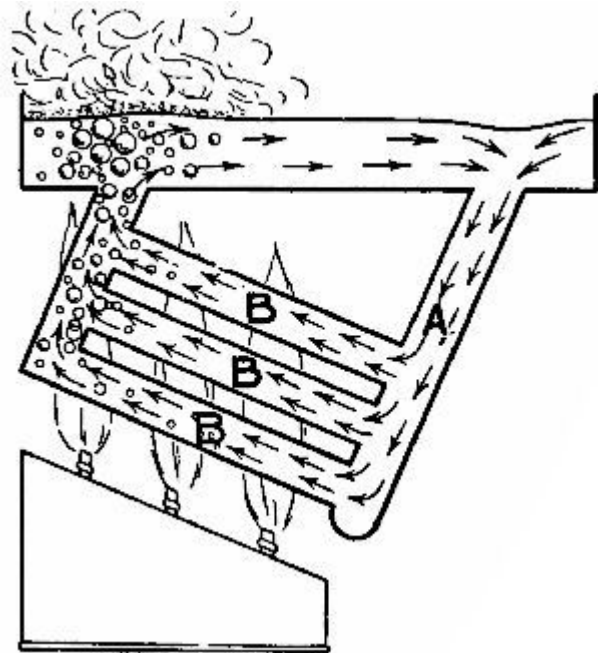

FIG. 5.
A further improvement results from increasing the number of tubes (Fig. 5), keeping them all on the slant, so that the heated water and steam may rise freely.
The Babcock and Wilcox boiler is widely used in mines, power stations, and, in a modified form, on shipboard. It consists of two main parts—(1) A drum, H, in the upper part of which the steam collects; (2) a group of pipes arranged on the principle illustrated by Fig. 5. The boiler is seated on a rectangular frame of fire-bricks. At one end is the furnace door; at the other the exit to the chimney. From the furnace F the flames and hot gases rise round the upper end of the sloping tubes TT into the space A, where they play upon the under surface of H before plunging downward again among the tubes into the space B. Here the temperature is lower. The arrows indicate further journeys upwards into the space C on the right of a fire-brick division, and past the down tubes ss into D, whence the hot gases find an escape into the chimney through the opening E. It will be noticed that the greatest heat is brought to bear on TT near their junction with UU, the "uptake" tubes; and that every succeeding passage of the pipes brings the gradually cooling gases nearer to the "downtake" tubes ss.